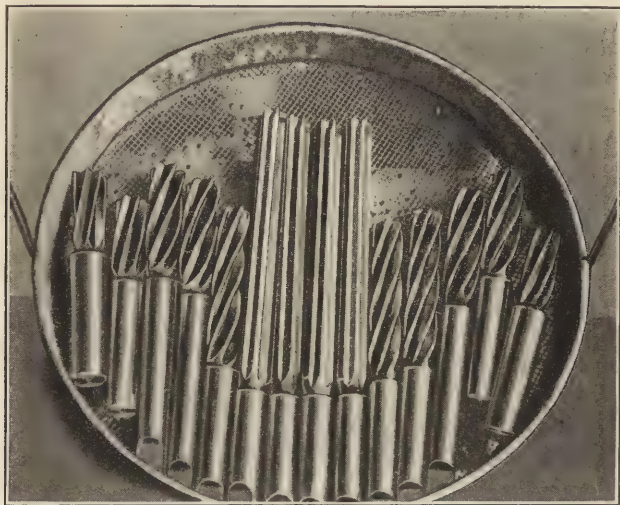

Fig. 15. Reamers with Cutting Edges Ranging from 4 to 12 inches long.
**The Treatment of Reamers.**—In Fig. 15 appear a number of reamers just as they were taken from the oil. The longest one is 16 inches over all, with 12 inches cutting edge. The others are from 4 to 8 inches cutting edge. They were packed in charcoal inside of a 5-inch pipe, sealed up and put in a large casehardening furnace, and left there just one hour and twenty minutes. They were then taken out, one at